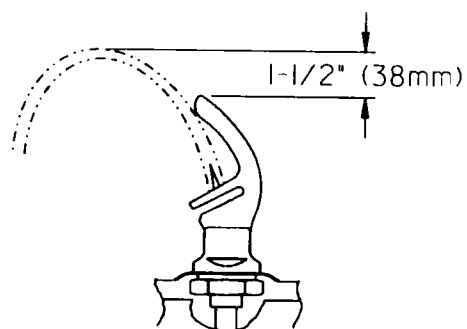

FIG. 8
8. **Check stream height from bubbler.** Stream height is factory set at 45-50 PSI. If supply pressure varies greatly from this, adjust the screw on regulator (item 13, on page 7). Clockwise adjustment will raise stream height and counter-clockwise will lower stream height. For best adjustment stream height should be approximately 1-1/2" (38mm) above the bubbler guard. (See Figure 8)